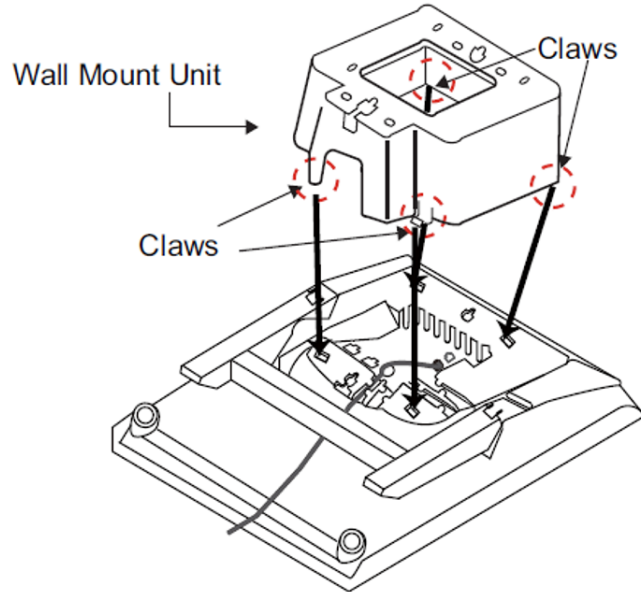

Figure 5-82 Installing the IP4WW-Wall Mount Unit.
3. Attach the IP4WW-Wall Mount Unit to the terminal (refer to Figure 5-82 Installing the IP4WW-Wall Mount Unit.).